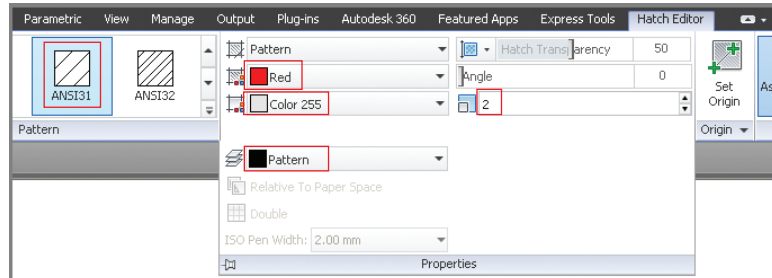

FIGURE 8.13 Configuring hatch properties
5. Select the pattern called ANSI31 in the Pattern panel if it is not already selected. Select Red in the Color drop-down in the Properties panel. Select Color 255 in the Background Color drop-down. Repeatedly click the Scale up arrow to increase the value to 2.0000. Expand the Properties panel, and select Pattern from the Hatch Layer Override drop-down (see Figure 8.13).